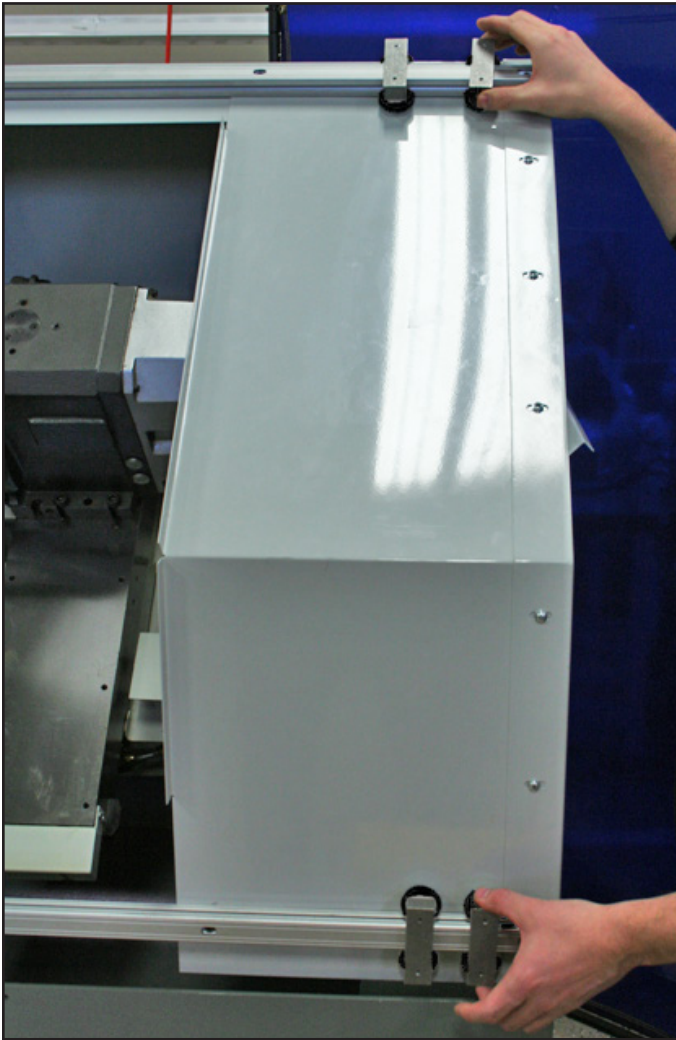

Figure 19
8. Slide two Door Roller Brackets onto both the top and bottom Door Rails as shown in **Figure 19**.